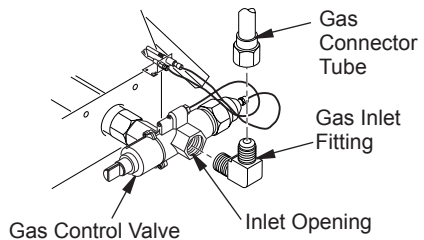

Figure 9 - Installing Inlet Fitting and Gas Connector Tube
3. Install the inlet fitting into the inlet opening of the gas control valve (see Figure 9). Use thread sealant on the male pipe threads.
6. Install the gas connector tube to the gas supply adaptor. Carefully shape tube and attach to gas inlet fitting (see Figure 9, page 5). Be careful not to cause kinks in tube.